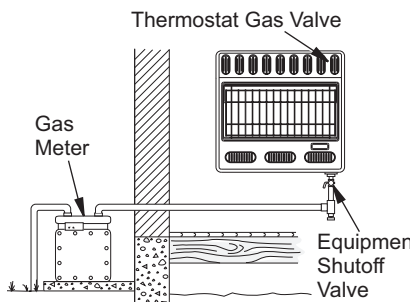
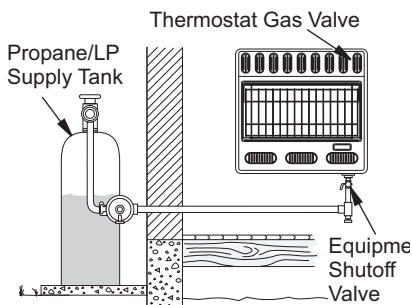

Figure 16 - Checking Gas Joints for Natural Gas (actual heater may vary from illustration)
Figure 17 - Checking Gas Joints for Propane/LP Gas (actual heater may vary from illustration)
3. Check all joints from gas meter for natural gas (see Figure 16)) or propane/LP supply tank for propane/LP to equipment shutoff valve (see Figure 17). Apply a noncorrosive leak detection fluid to all joints. Bubbles forming show a leak.
4. Check all joints from equipment shutoff valve to thermostat gas valve (see Figure 16 or 17). Apply a noncorrosive leak detection fluid to all joints. Bubbles forming show a leak.